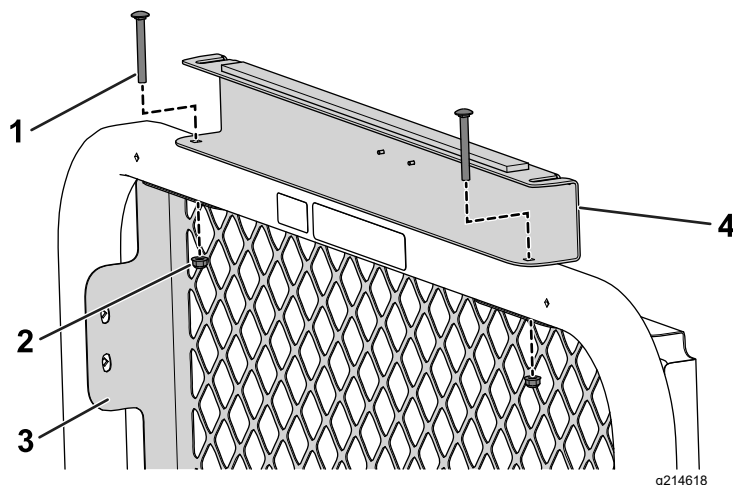

Figure 33
5. Use 2 carriage bolts (5/16 x 2-3/4 inches) and 2 flange nuts (5/16 inch) to secure the rear canopy support and the rear screen to the roll bar (Figure 33).